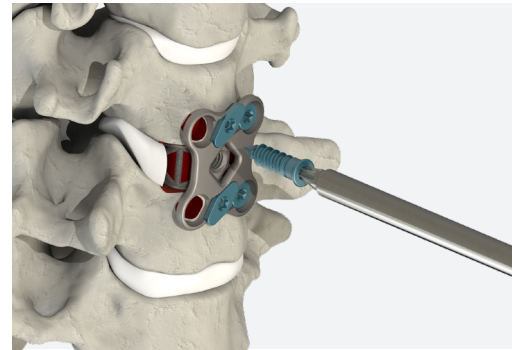

Figure 13
- ▲ The CSTS-PS offers one driver for both screw insertion and rotating the locking plate. Select the desired Driver and attach the Handle to the proximal end of the Driver. Select the primary screw with the desired length and attach it to the distal end of the Driver. Insert the screw through the screw hole in the plate. Drive the screw until it is fully seated in the plate (Fig. 13).